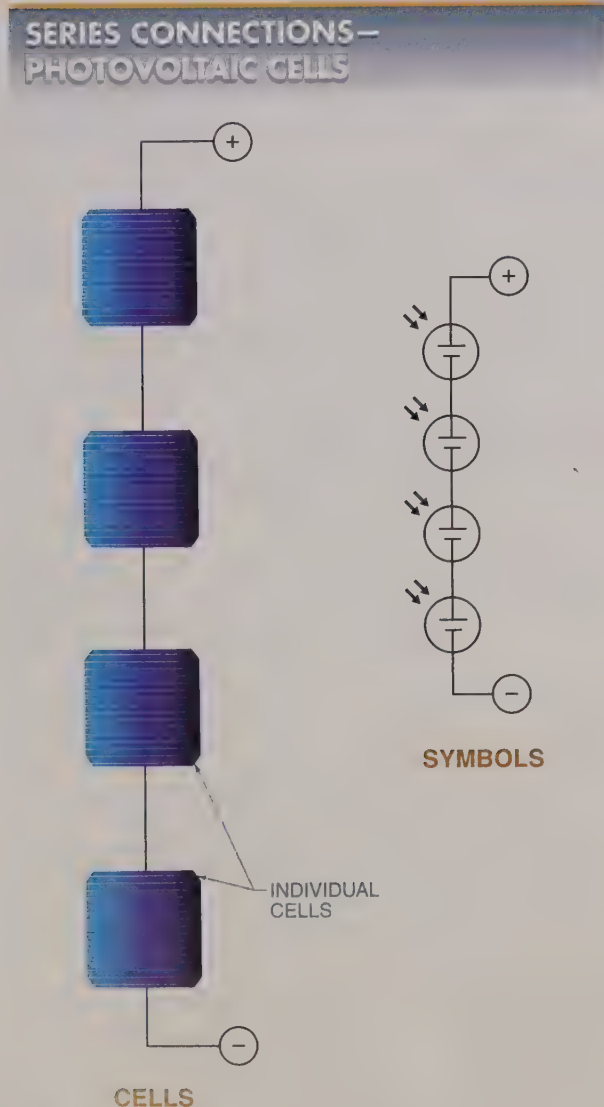

Figure 1-25. Photovoltaic cells are placed in series to increase the voltage output from a set of photovoltaic cells.
Series and Parallel Photovoltaic Cell Output. Photovoltaic cells are rated by the amount of energy they convert. Most manufacturers rate photovoltaic cell output in terms of voltage (V) and current (mA). Photovoltaic cells produce a limited amount of voltage and current. For example, each photovoltaic cell may produce up to 0.6 V. To increase the voltage output, cells are connected in series. See Figure 1-25.